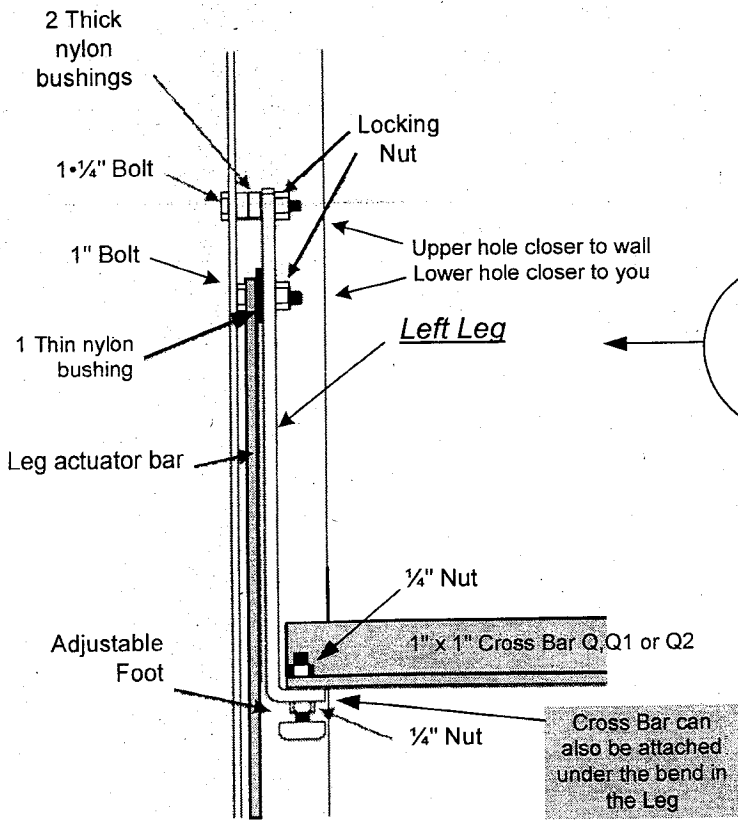

Figure 6
15. Attach Left (L) and Right (M) Legs to Side Rails of frame and snug tighten. Figure 6. Note: Use upper hole in Leg which should be closer to the wall. This determines left and right leg. NOTE: The Locking Nuts should only be tightened enough so that plastic center ring of nut comes into contact with bolt threads.
16. Attach remaining 1" x 1" Cross Bar (Q,Q1 or Q2) to bent end of Legs using Adjustable Foot as shown in Figure 6.
17. Attach one end of Leg Actuator Bars (N) (flat bars with rounded ends) to leg assemblies as shown in Figure 6 and snug tighten.